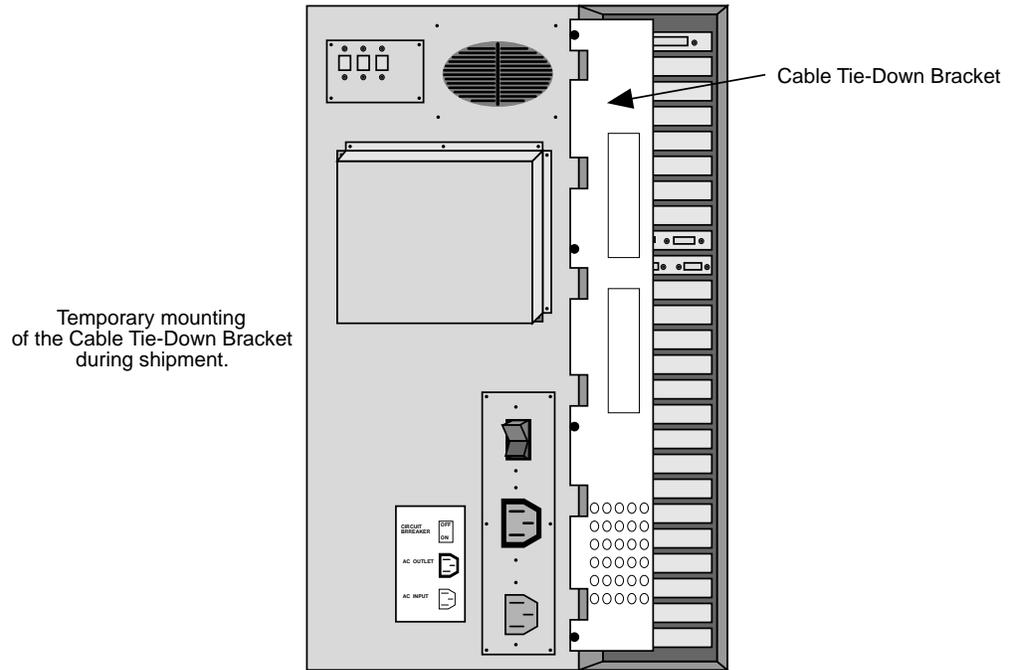

Figure 2-10. Cable Tie-Down Bracket Position During Shipment
Each MAP/100 includes a cable tie-down bracket. Units equipped with multiple Tip/Ring circuit cards and a Tip/Ring distribution panel are shipped with cabling attached to this bracket. This bracket must be permanently attached to the unit. If it is not, see Figure 2-10 for an example of the position of the bracket during shipping.
1. Loosen the four screws next to the 25-slot backplane (Figure 2-10).